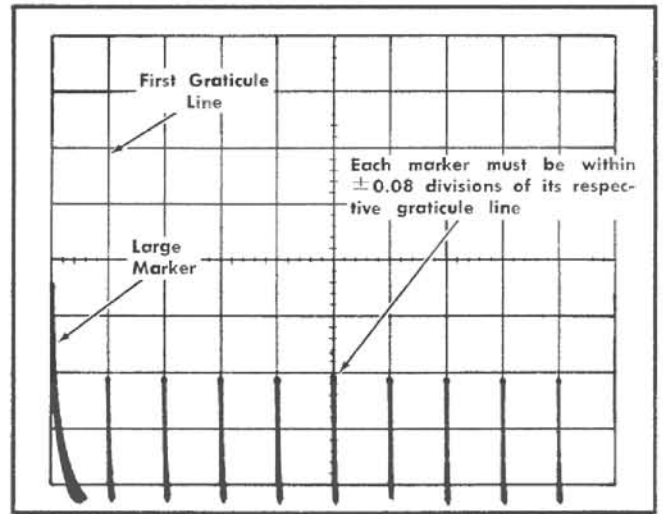

Fig. 6-45. Typical CRT display when checking magnifier timing and linearity.
- c. CHECK—CRT display for one small marker each division between the first and ninth graticule line (see Fig. 6-45). With the second marker positioned to the first graticule line, the tenth marker must be within ± 0.16 division of the ninth graticule line (timing within $\pm 2\%$ when normal sweep calibration, step 38, is adjusted correctly; otherwise check within $\pm 5\%$).
d. CHECK—Each marker in CRT display must be within ± 0.08 division of its respective graticule line (linearity within 1%; see Fig. 6-45).